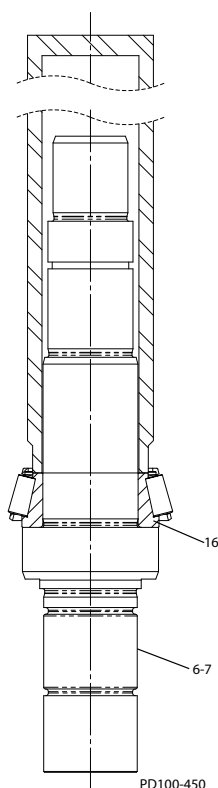

Figure 45 - Press Bearing Cone Onto Shaft
Alternate method: Press the front bearing cone (Figure 45, item 16) onto the shafts (items 6-7). The bearing cone must seat squarely against the shaft shoulder.